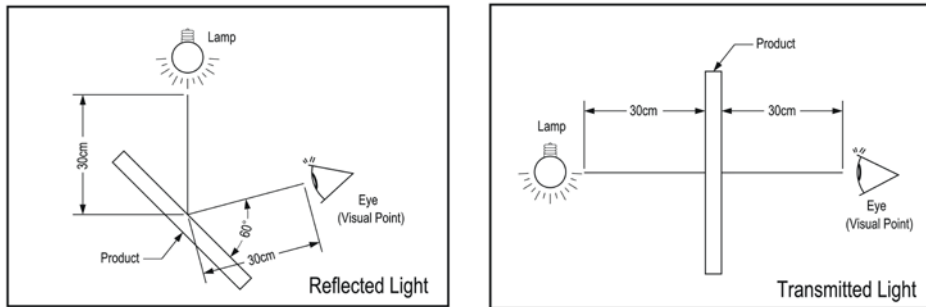

Figure 11-1
(2) The inspection was performed with one 17W fluorescent lamp lighting from back or side. The panel was placed 30cm away from eyes. (Figure 11-1)
[檢測始用之燈光為 17W 白熾燈光，詳細的擺設方式，請參考圖(Fig11-1)]